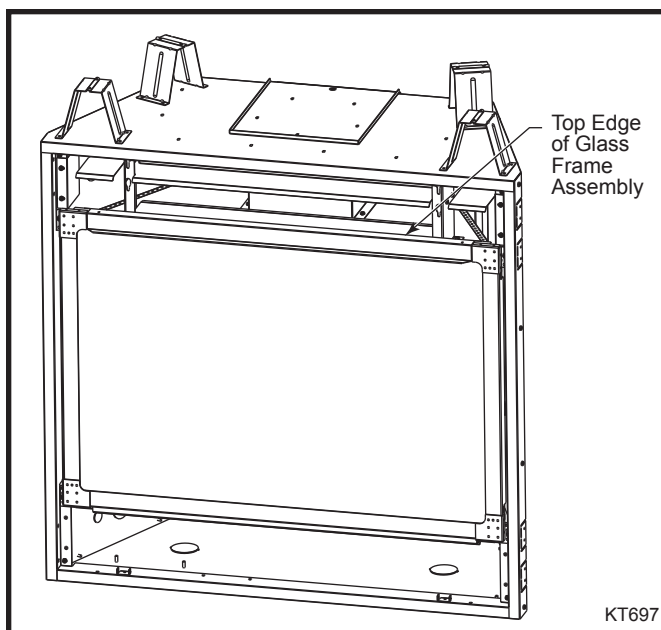

Fig. 4 Place main body section of bay on top edge of glass frame assembly.
1. Place the main body section of the bay onto the fireplace unit so the flanged edge of the bay rests on top of the glass frame assembly. (Fig 4)